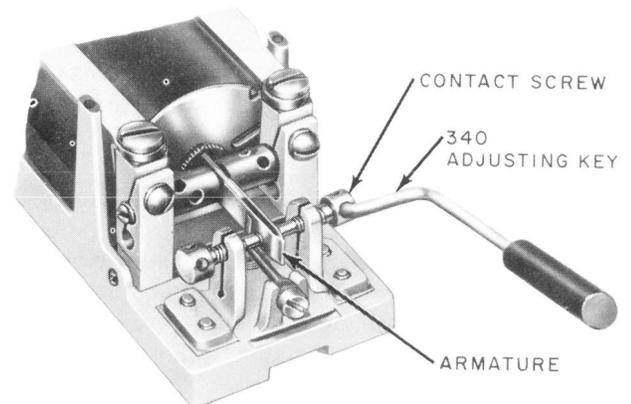

Fig. 7—Method of Aligning Contact Travel (Old Style Illustrated)
- (1) If readjustment for contact travel is required, proceed as follows: (Fig. 7)
- (2) If necessary, remove the buildups from the contacts in accordance with Section 069-306-801.